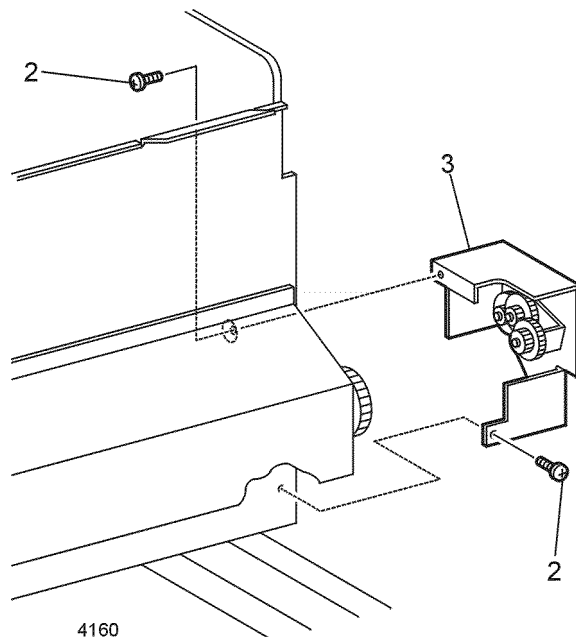

Figure 1 Brake Assembly
2. Remove the two screws that secure the Brake Assembly to the Tray Assembly (Figure 1).
3. Remove the Brake Assembly (Figure 1).